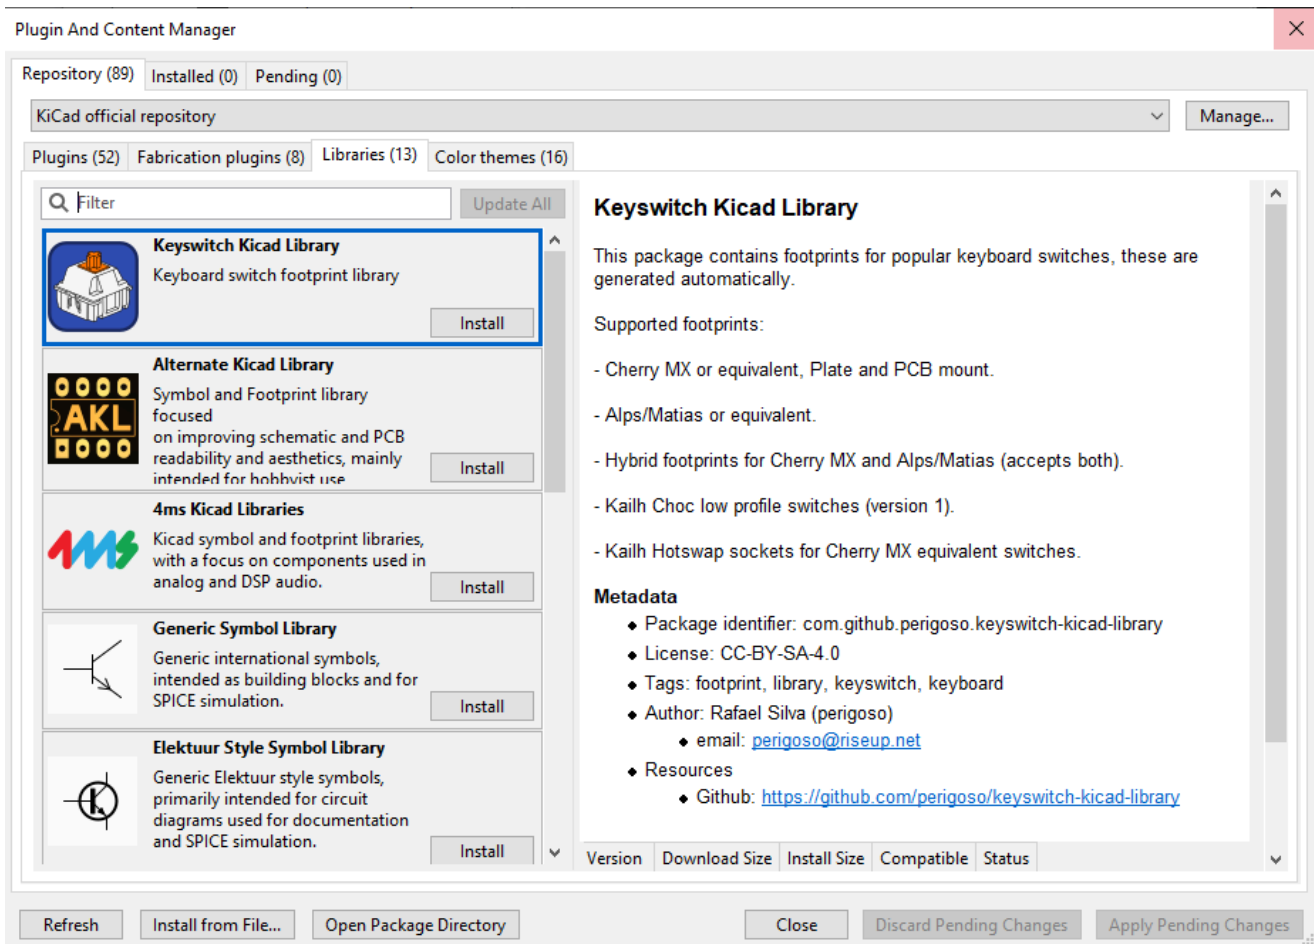

Figure 2: Downloading Footprint Library
- Figure 2:** Downloading Footprint Library